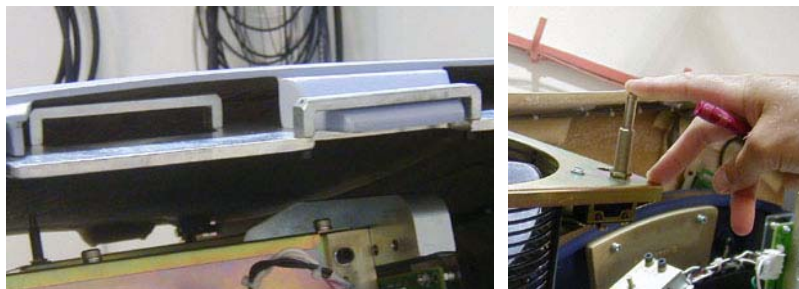

Figure A-4 Top cover tabs and bracket, plus fan interlock switch.
- 3.) Slide the cover down 75 mm (3 in.). This disengages the cover tab from the mounting bracket (see Figure A-4).